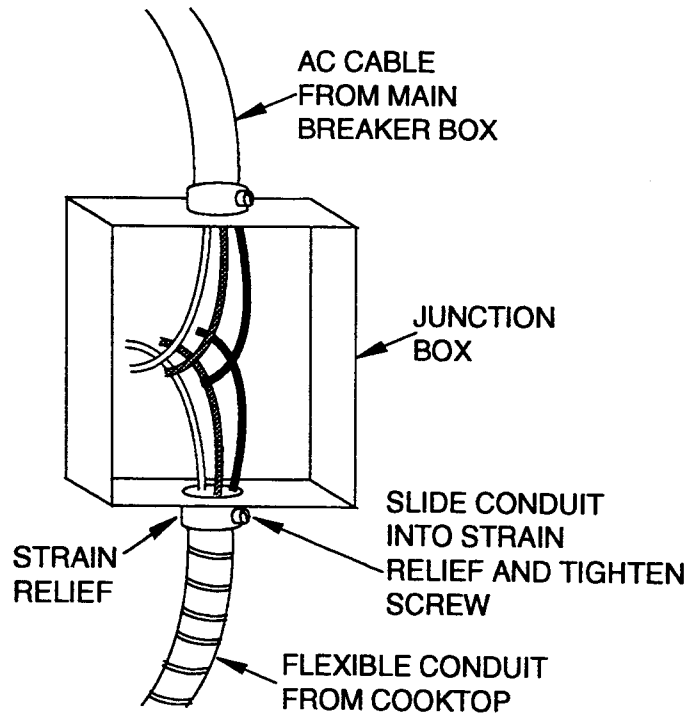

FIGURE 2-6
4. Insert the power supply wires, coming from the cooktop, through the conduit opening in the junction box, and secure the end of the conduit to a U.L.-listed conduit connector (see Figure 2-6).